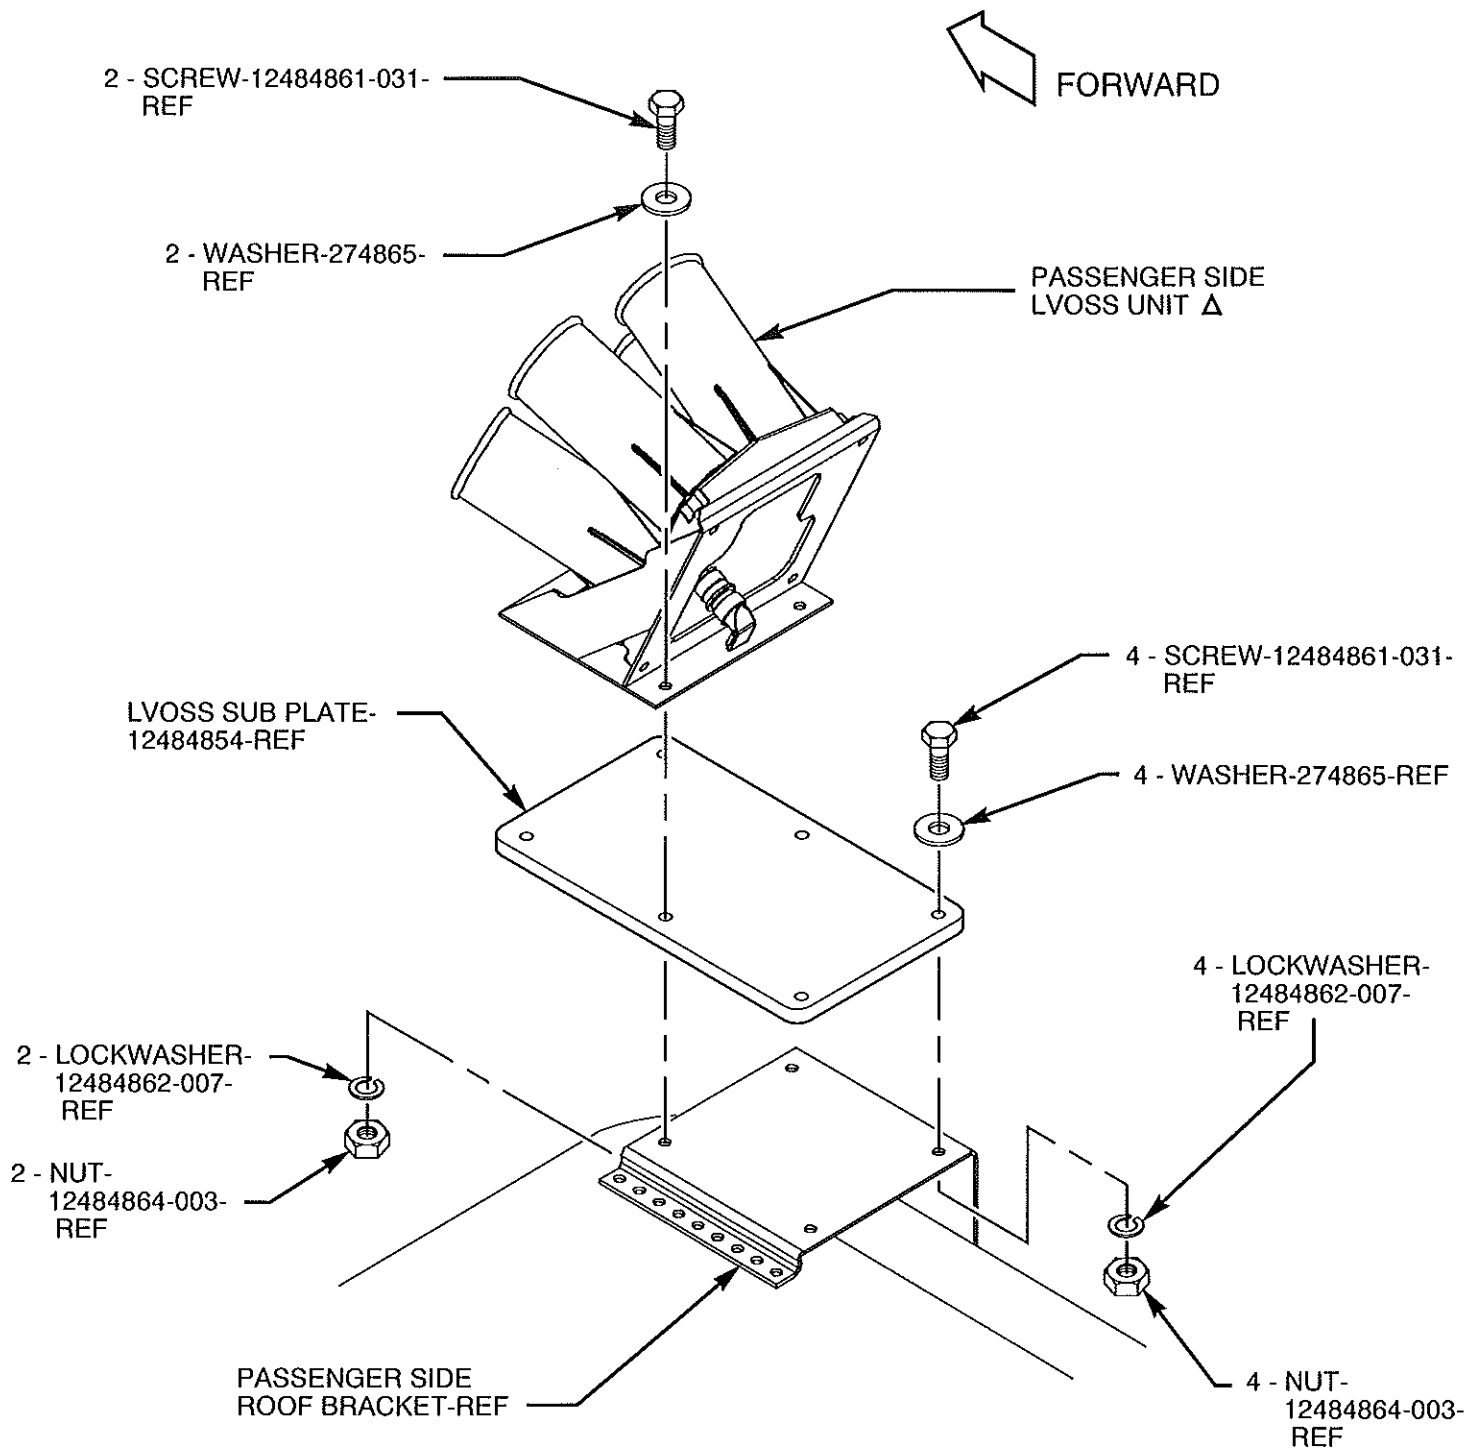

FIGURE 7
- G. INSTALL 12484854 LVOSS SUB PLATE ON PASSENGER SIDE ROOF BRACKET. ENSURE "FRONT PASSENGER SIDE" NOTE ON SUB PLATE IS FACING FORWARD AND UPWARD. SECURE WITH TWO 12484861-031 SCREWS, 274865 WASHERS, 12484862-007 LOCKWASHERS, AND 12484864-003 NUTS IN REAR MOUNTING HOLES ONLY. REFER TO FIGURE 7.
- H. ENSURE PASSENGER SIDE FRONT LVOSS UNIT IS ORIENTED PROPERLY, AND SECURE TO 12484854 LVOSS SUB PLATE WITH FOUR 12484861-031 SCREWS, 274865 WASHERS, 12484862-007 LOCKWASHERS, AND 12484864-003 NUTS AS SHOWN IN FIGURE 7. TIGHTEN SIX 12484861-031 SCREWS TO 21 LB-FT (28.5 N·m).